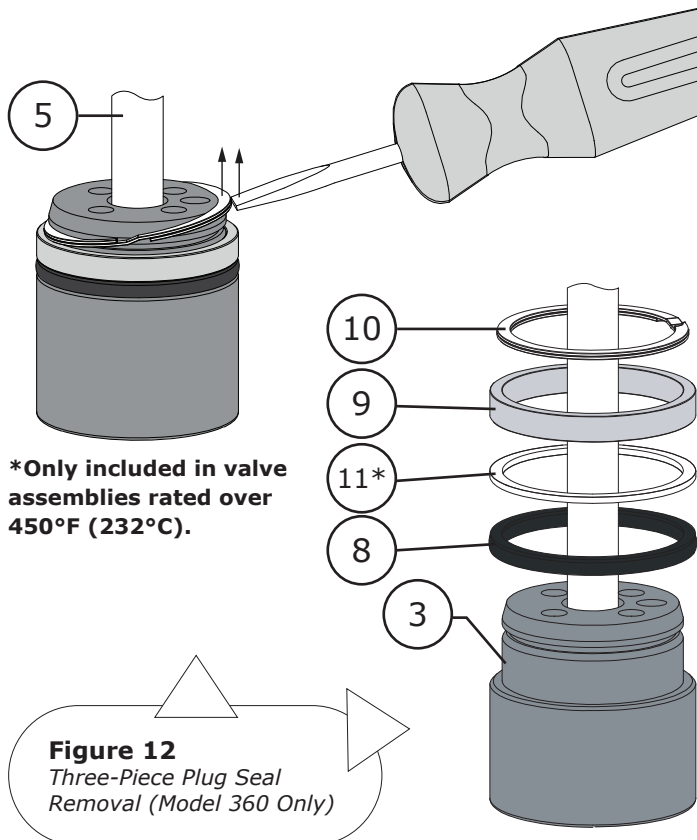

Figure 12
- 1 Carefully remove the retaining ring (Key 10) from the plug groove, a pick set or flat screw driver may be required. Refer to Figure 12.
- 1 Carefully remove the retaining ring (Key 10) from the plug, a pick set or flat screw driver may be required to pry the spiral rings of the retaining ring apart to assist removal. Refer to Figure 12.